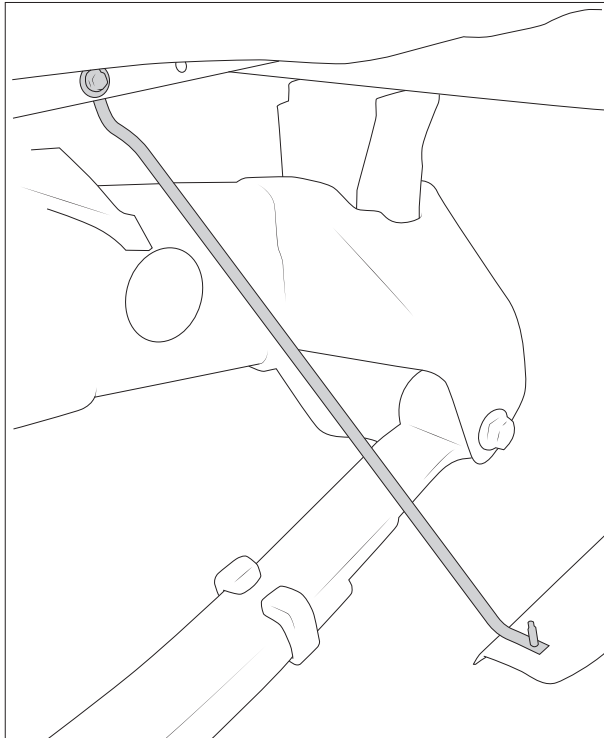

Figure 10: Passenger Side Shown
- E. Install the support rod using the hardware saved from disassembly (fig. 10).